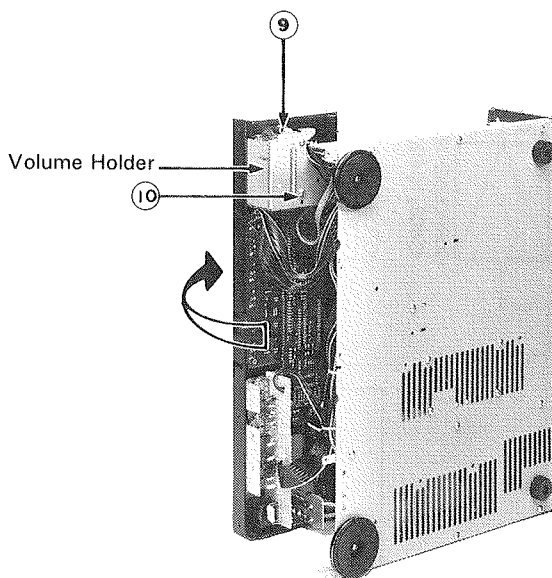

Fig. 2
- 3.Turn the front panel over the arrow direction. (See fig.2.)
- 6.Remove two screws ⑨ and ⑩ securing the volume holder. (See fig.2.)